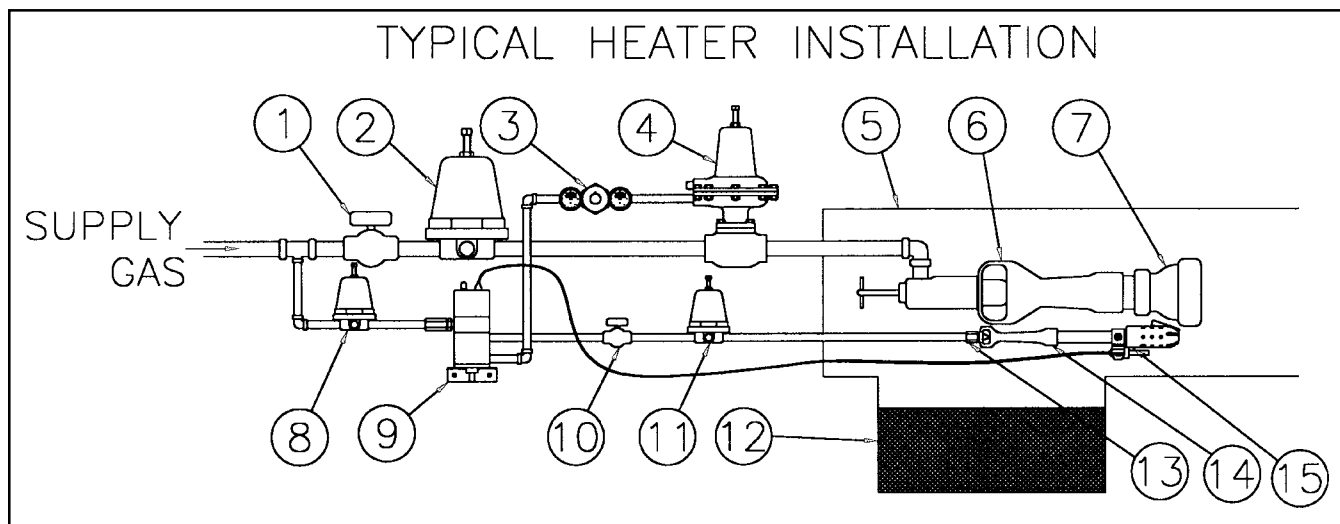

Figure 2
2. Include a manual shut-off valve in the main burner line and in the pilot line (see Figure 2).